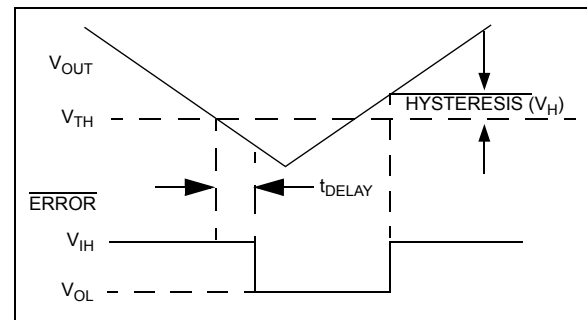

FIGURE 4-2:  $\overline{ERROR}$  Output Operation.
$\overline{ERROR}$  is driven low whenever  $V_{OUT}$  falls out of regulation by more than -5% (typical). This condition may be caused by low input voltage, output current limiting or thermal limiting. The  $\overline{ERROR}$  threshold is 5% below rated  $V_{OUT}$ , regardless of the programmed output voltage value (e.g.  $\overline{ERROR} = V_{OL}$  at 4.75V (typ.) for a 5.0V regulator and 2.85V (typ.) for a 3.0V regulator).  $\overline{ERROR}$  output operation is shown in Figure 4-2.
- Changes to Figure 4-2.